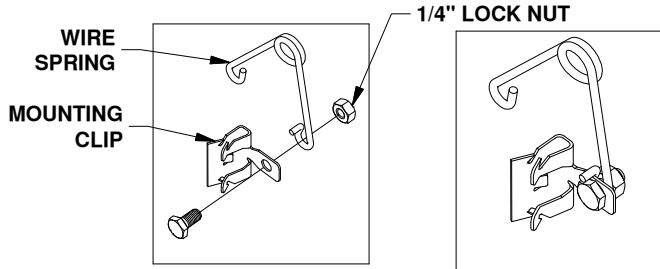

Figure B1:
1. **Assemble kit.** Locate the 1/4" cap screw and nut, along with the wire tension spring and mounting clip. Pass the 1/4" cap screw through the mounting clip and the wire spring as shown in Figure B1. Thread the 1/4" lock nut onto the 1/4" cap screw. Tighten the lock nut just enough that the spring will stay in place but will still be able to rotate around the bolt if needed, see Figure B2.